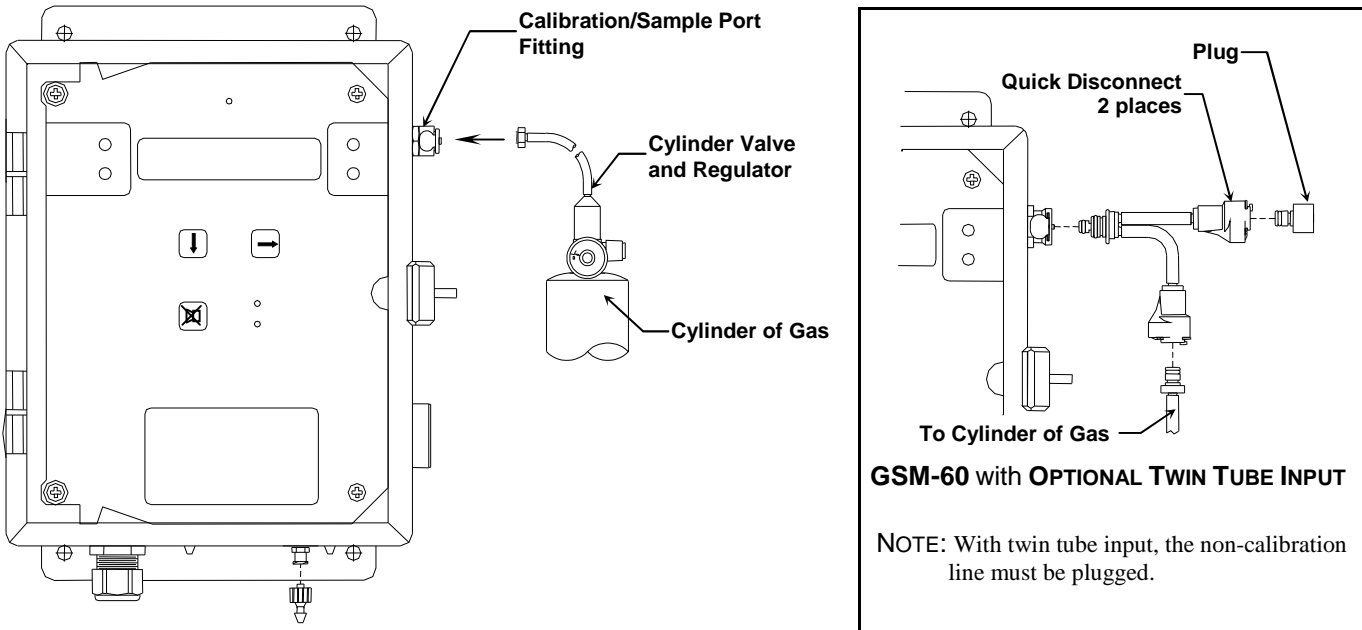

Figure 7: GSM-60 Calibration Connections
- Press the **SELECT** switch, the gas & current reading are displayed in upper portion of display. The mV reading & "LowCal Q" is displayed in the lower portion of display. This is the LowCal setting, *usually zero*, clean air must be supplied to the sensor. This reading needs to be at or near zero. If it is not then a cylinder of clean 20.9 air should be used. See Figure 7 if this is required.
- Apply calibration gas to sensor. See **Figure 7**. After about 1 minute and mV reading has stabilized.